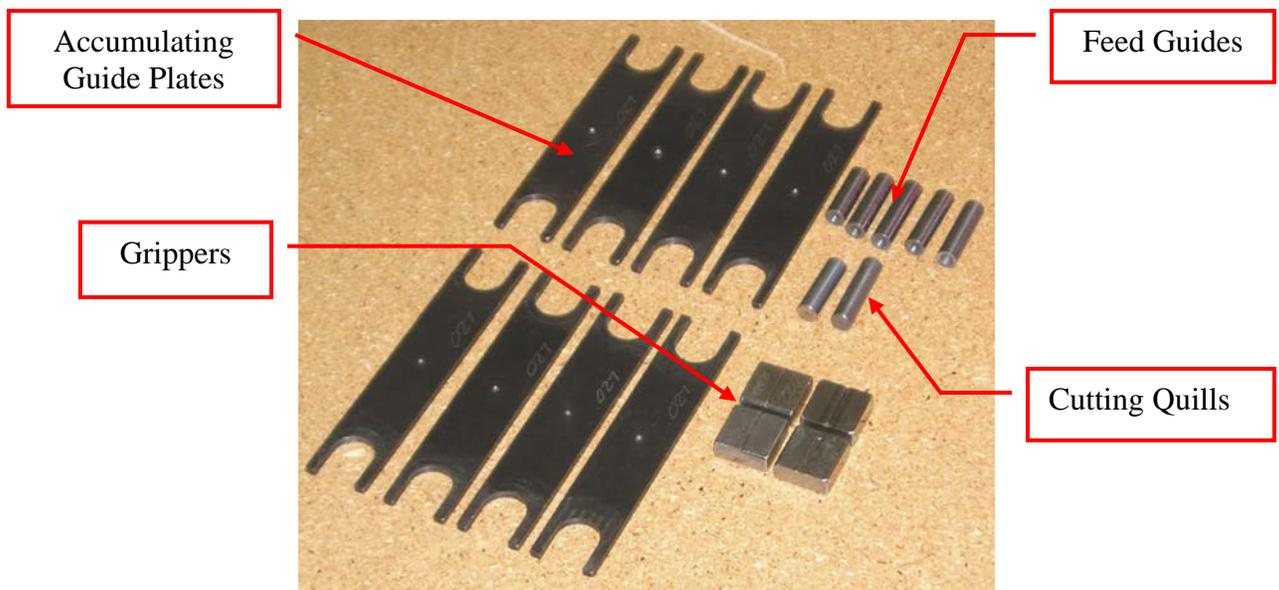
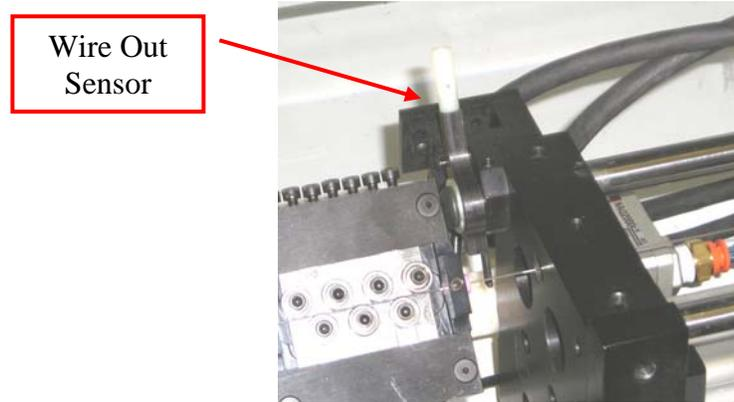

Fig 1 (Series #02 tooling shown)
Fig 2
NOTE: Wire hole cutting edge, and any surface leading to wire hole cutting edge should be free of all tool marks and/or grinding lines. (Figures 1, 2)
Set *stationary quill* with surface (A) (Fig 1) flush to surface (B). (Fig 2) Do not extend above surface (B). Use appropriate shim grind rings to set surface (A) of the *stationary quill* flush to surface (B) of the *cutter body*.
Set *traveling quill* with surface (A) (Fig 1) flush or below the *cutter arm* surface (C) (Fig 3) do not extend out from surface (C). Use appropriate shim grind rings to set surface (A) of the *travelling quill* flush or below surface (C) of the *cutter arm*.
3. Separate the corresponding washers on the other shaft and pull them apart far enough to swing the other end of the guide plate between the shafts and slip the cutout end of the plate over the shaft. (fig. 1)
5. The result should be a washer on each side of the accumulating guide plate backed by a spring. (fig. 1)